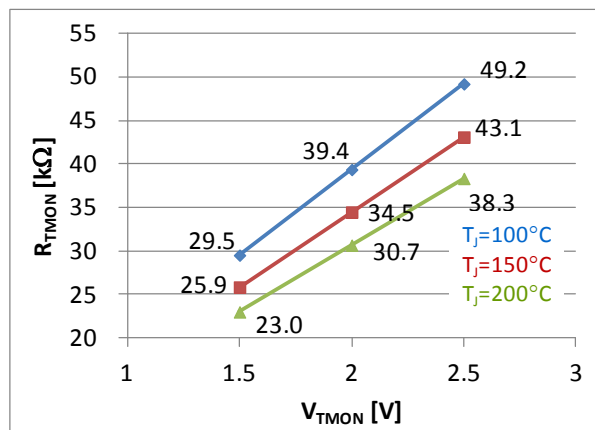

Figure 36. V_{TMON} vs. R_{TMON}
For example, if a 2 V V_{TMON} is required when the driver T_J reaches 150°C, the calculated R_{TMON} value is 34.5 k Ω . Figure 36 shows the relationship among V_{TMON} , R_{TMON} and driver T_J based on Equation (1).